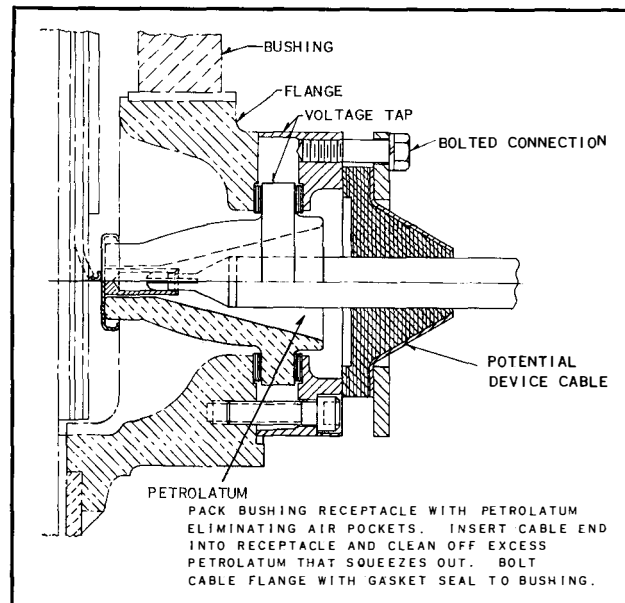
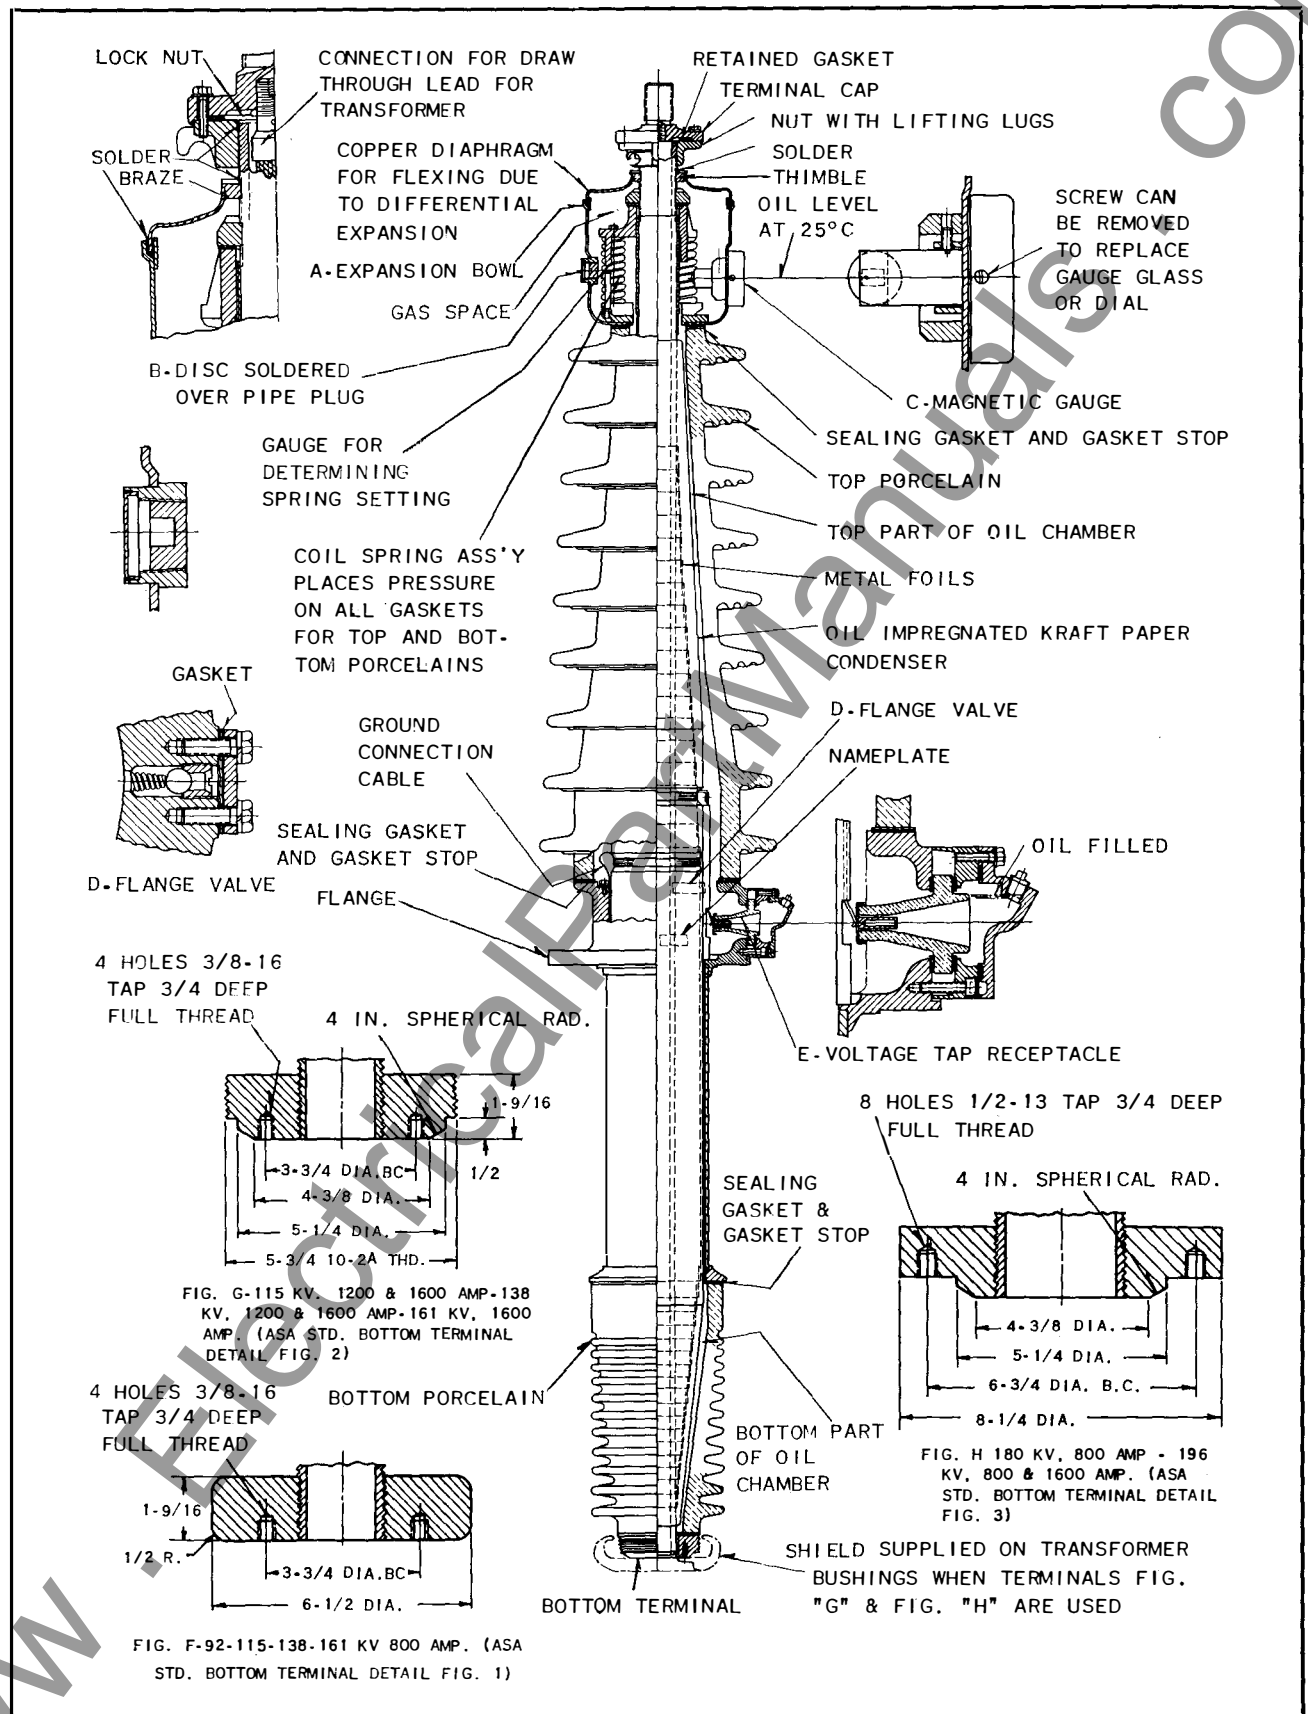

FIG. 4. Voltage Tap Receptacle with Potential Device Cable Connected
FIG. 6. Sectional View—Condenser Bushing, Type "O"
These bushings have an oil-impregnated kraft paper condenser inside an oil-filled chamber as shown in Fig. 6. This chamber consists of an expansion bowl, an upper porcelain weather casing, a metal mounting flange, a lower porcelain and a bottom terminal porcelain support. All parts are held under pressure by a spring assembly. The entire chamber is sealed. All joints above oil level are sealed by soldering, brazing or welding. Joints between porcelain and metal parts are made with cork-neoprene sealing gaskets encircled by asbestos-neoprene gaskets and held in compression by the springs in the expansion bowl.
The expansion bowls are constructed as shown in Fig. 6-A. All joints are either soldered, brazed, or welded. Heating of parts is prevented by use of non-magnetic materials and insulating against short circuiting paths in the magnetic field.
The flange is provided with a voltage tap receptacle and oil valve as shown in Figs. 6-D and 6-E.
**Installing Transformer Bushings.** Transformer bushings are provided with rounded surface static shields to cover the threads and sharp corners of bottom terminals (See Figs. 6-G and 6-H). These should always be securely in place on the bushing before it is put into the transformer.
**Voltage Tap.** Type "O" bushings are furnished with a voltage tap located at the flange. See Fig. 6-E. The voltage tap receptacle is filled with Wemco "C" oil when potential device is not used, and is filled with petrolatum when the potential device is attached. See Fig. 4. The voltage tap is never grounded and the receptacle should always be filled as specified before putting the bushing in service.
To connect Potential Device Cable (See Fig. 4) remove the cover from the bushing tap receptacle. This will allow approximately 1 pint of transformer oil to drain out. Pack the receptacle with petrolatum and bolt the cable termination in place.
Bushings of this type will rarely have to be rebuilt. Occasionally due to an accident a bushing may be damaged. In such cases Westinghouse has adequate facilities for repairing bushings and best results will generally be obtained by returning them to the factory. However, the dismantling procedure is as follows (see Fig. 6):
The procedure for rebuilding the bushing is as follows (see Fig. 6):